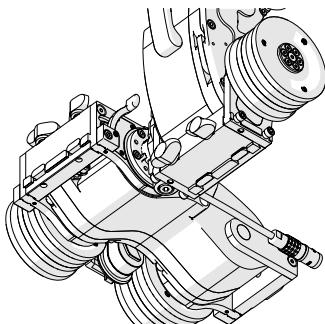

Fig. 100 - Rotate modules to 90°
2. Once the two modules are 90° perpendicular (Fig. 100), gently pull the two modules apart (Fig. 101).